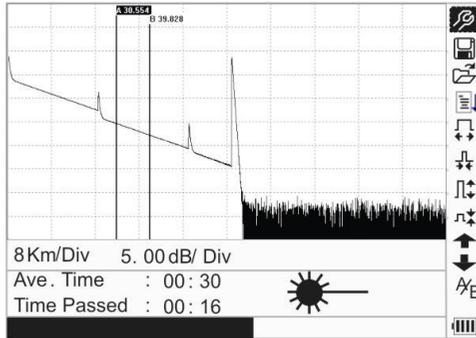

Figure 37.- Measuring.
- Measure: press [] to start measurement, and the interface is as shown in figure 37 and 38.